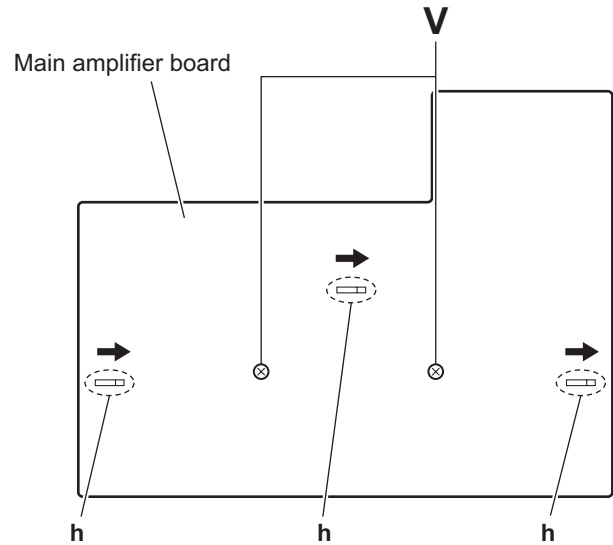

Fig.21
(2) From the reverse side of the main amplifier board, remove the two screws **V** attaching the heat sink to the main amplifier board. (See Fig.21.)
(3) Release the joints **h** in the direction of the arrow and remove the heat sink from the main amplifier board. (See Fig.21.)